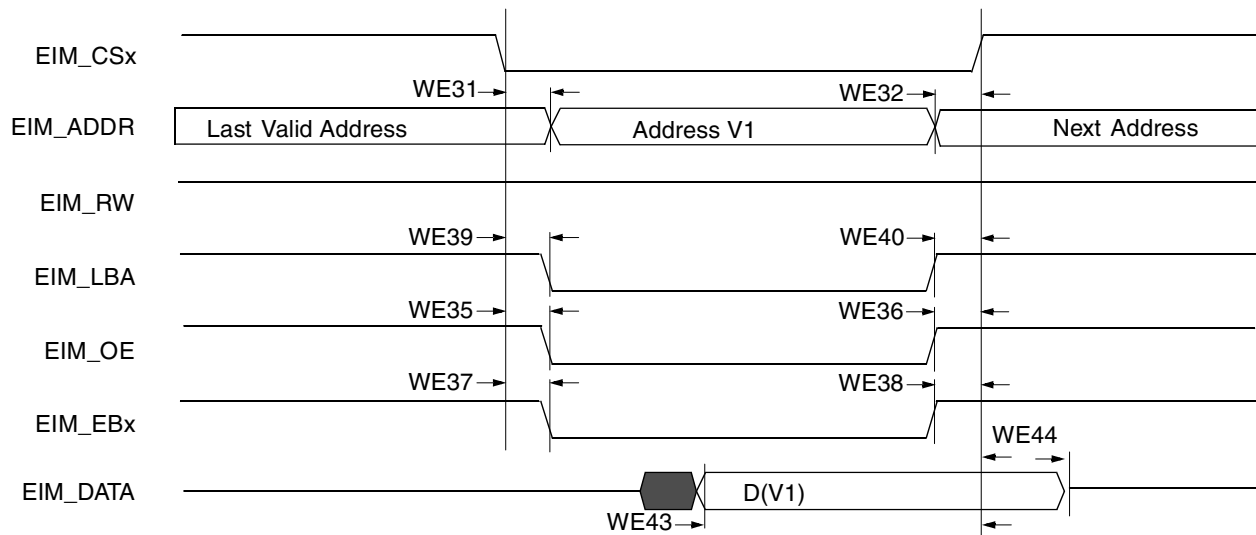
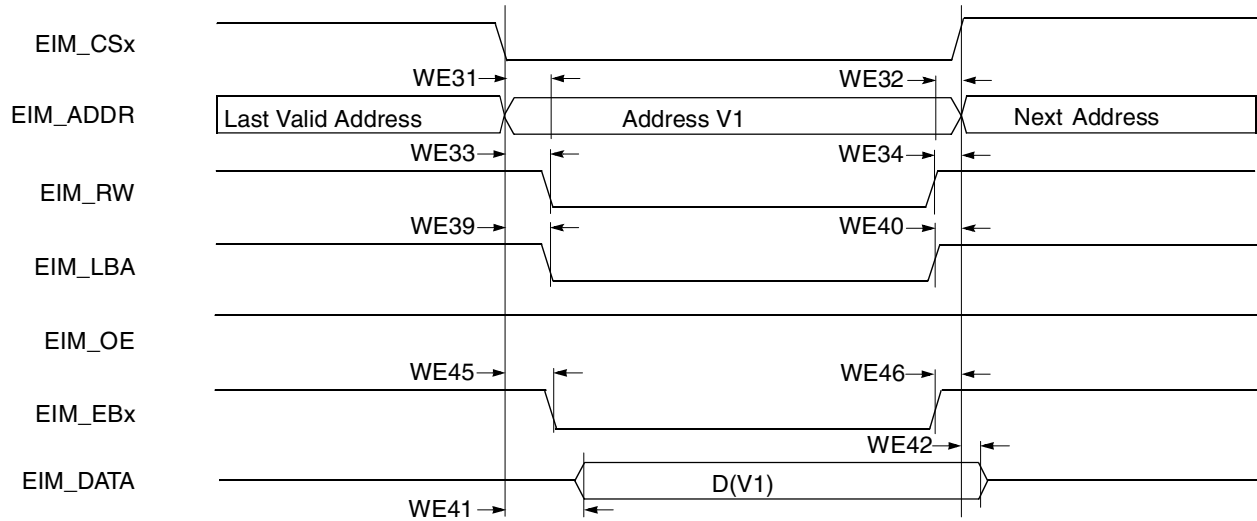
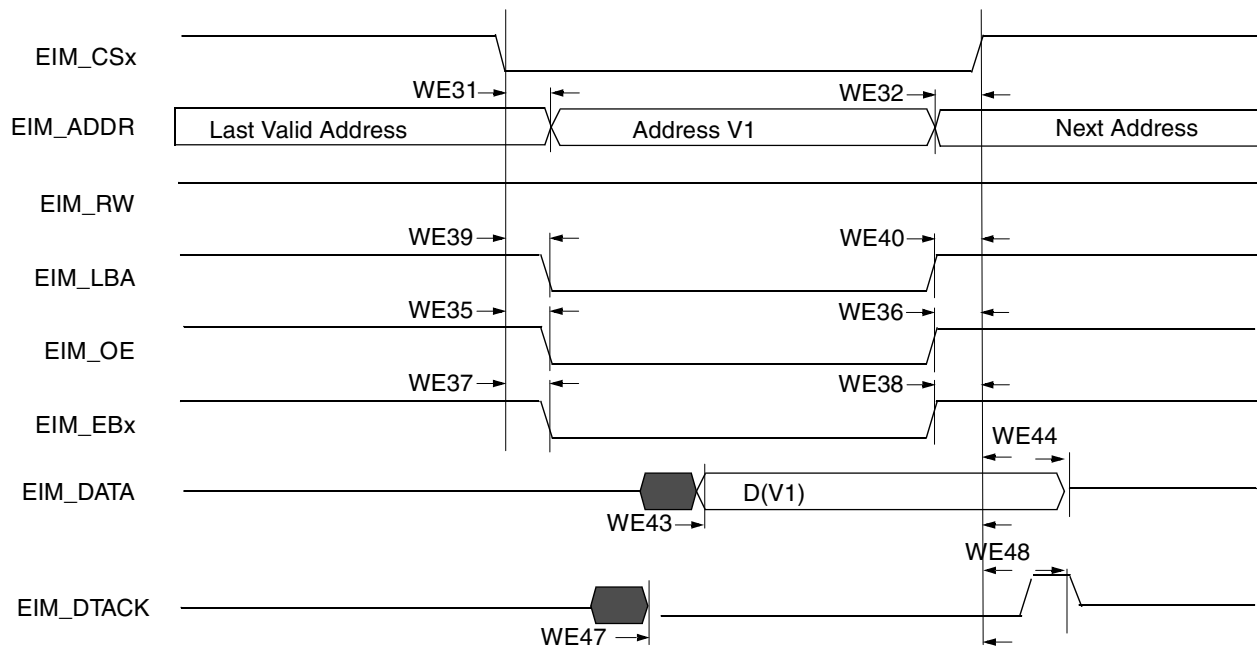

Figure 25. Asynchronous Memory Read Access
Figure 26. Asynchronous Memory Write Access
Figure 27. DTACK Read Access
Figure 25, Figure 26, Figure 27, and Table 43 help to determine timing parameters relative to the chip select (CS) state for asynchronous and DTACK EIM accesses with corresponding EIM bit fields and the timing parameters mentioned above.